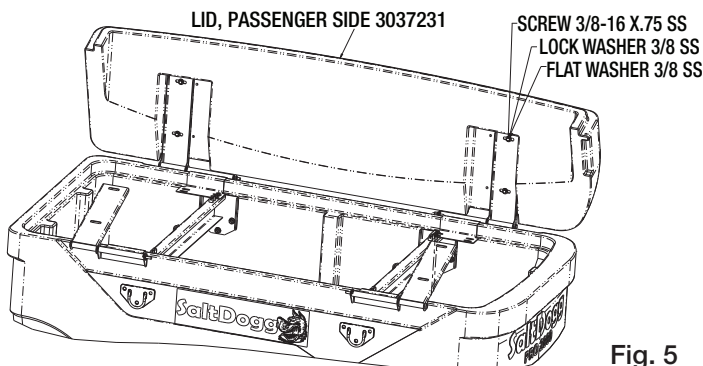

Fig. 5
4. Properly select driver and passenger side lids and attach them to hinges as shown for each spreader model below. Do not tighten screws completely at this time. (Fig. 5 and Fig. 6)